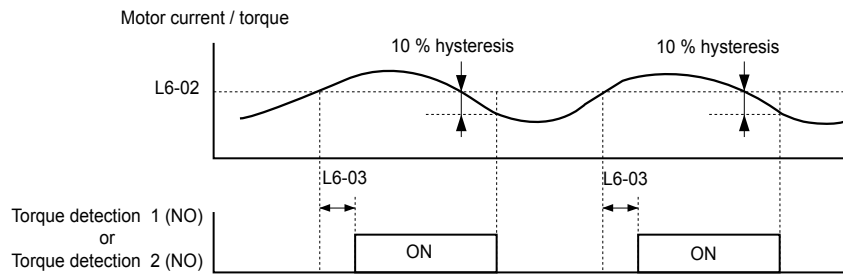
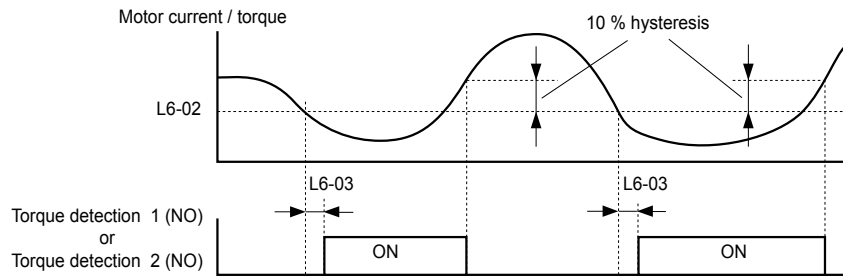

Figure 5.48 Overtorque Detection Operation
Figure 5.49 Undertorque Detection Operation
*Figure 5.48* and *Figure 5.49* illustrate the functions of overtorque and undertorque detection.